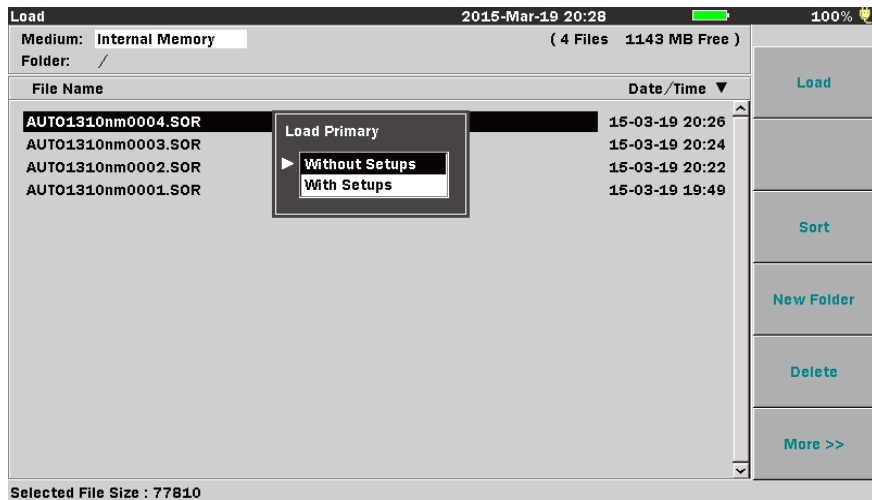

Figure 5-26: Load Primary Dialog box
3. Select **Load (f1)**, the Load Primary dialog box appears. See Figure 5-26 on page 5-63.